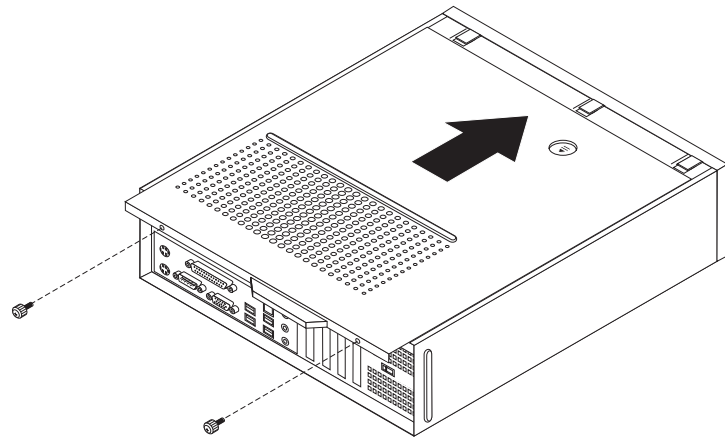

Figure 39. Replacing the cover
5. Replace the computer cover and connect the power cord. See Figure 39 on page 33.